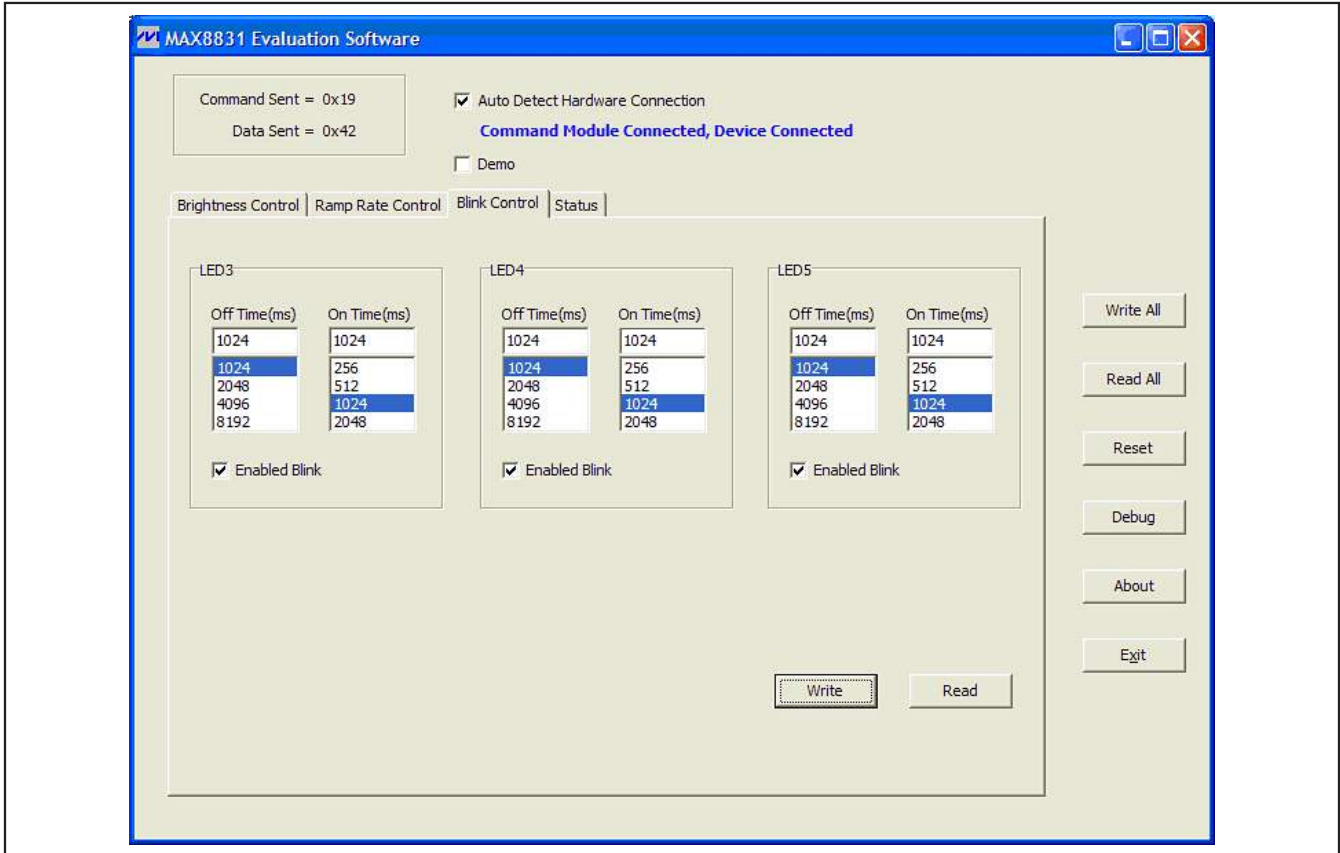
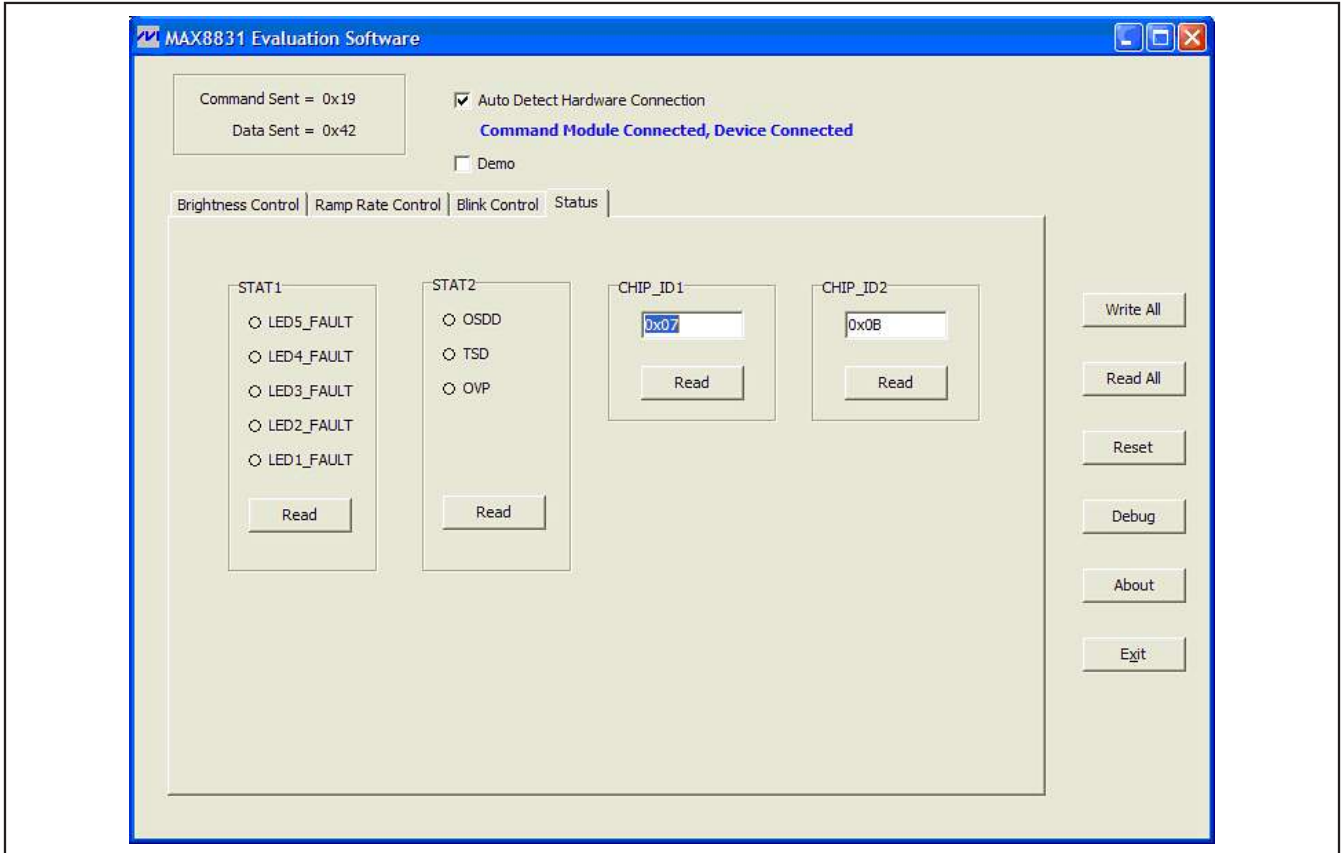

Figure 4. Blink Control Tab
Figure 5. Status Tab
- 22) Select **1024** for both **Off Time(ms)** and **On Time(ms)** for LED3, LED4, and LED5, as shown in Figure 4.
The **Blink Control** tab sheet (Figure 4) provides blink-on and blink-off times for the LED3, LED4, and LED5 current regulators. Each LED string is independent of each other and features individual enable/disable control for the blink function. The blink **Off Time** provides four different settings ranging from 1024ms to 8192ms. The blink **On Time** provides four different settings ranging from 256ms to 2048ms. See the *Combining Blink*
As shown in the **Status** tab sheet (Figure 5), the **STAT1** and **STAT2** read-only registers monitor the MAX8831 operating state and fault status. These registers indicate any short/open LED, output overvoltage, an open Schottky diode, and overtemperature. The **STAT1** and **STAT2** indicators require a **Read** if a fault or event has occurred, in which case the corresponding indicator flag turns red. A second **Read** clears the status bit if the fault or event is no longer present.
Refer to Figure 5 and the state diagram (Figure 4) in the MAX8831 IC data sheet for more details.